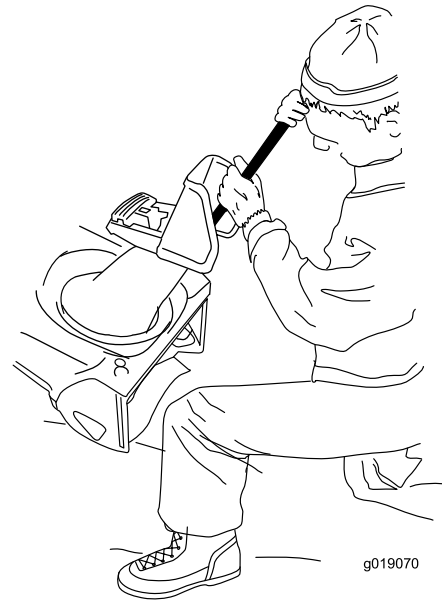

Figure 24
- Always use a clean-out tool (not included), not your hands (Figure 24).